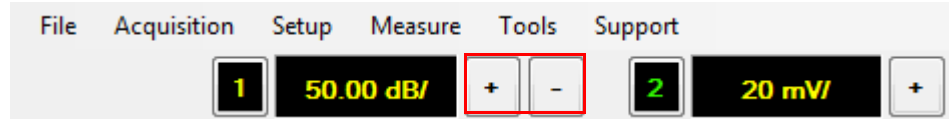

Figure 2-14 Vertical scale adjustment on the graphical interface
- 8 You can also adjust the vertical scale using + and – as shown in Figure 2-14.